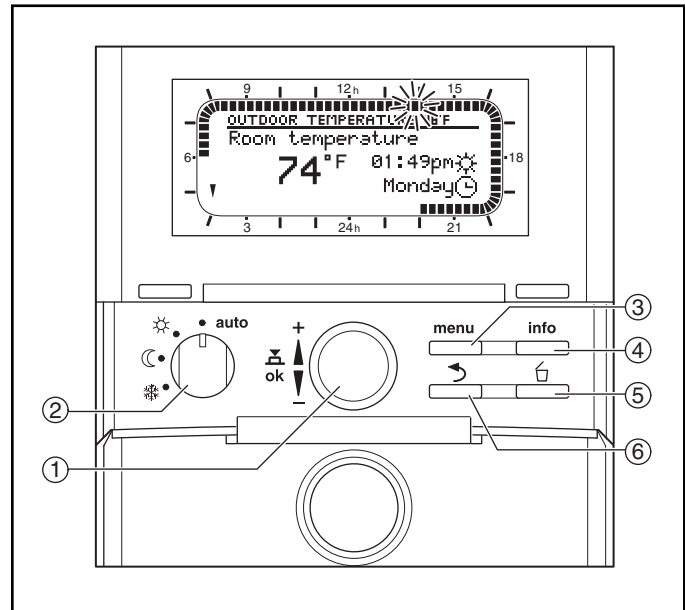

Fig. 1 Controller with front flap open
i At any time, pressing the Menu button (Fig.1, pos.3) will bring you back to the standard display.
- Turn dial (Fig.1, pos.1) to adjust time and date. Press the dial to finalize your selection.
- You will be asked about System configuration, which is only necessary if you have added additional controls. If you see this prompt, press and hold the menu button (Fig.1, pos.3) until it disappears.
1. Turn selector (Fig.1, pos.2) to the Comfort Symbol (☀).
To restore to factory defaults, hold the Delete button (Fig.1, pos.5) and the Menu button simultaneously for about 10 seconds. A count down display will appear. This will restore factory defaults. The only program that will be held is the date and time.